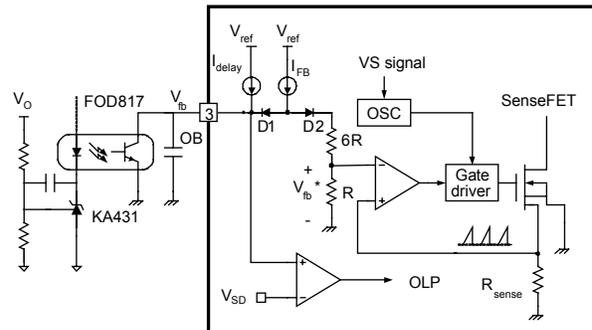

Figure 14. Valley Switching Pulse Width Modulation (VS-PWM) Circuit
2. Feedback Control: This device employs current mode control, as shown in Figure 14. An opto-coupler (such as the FOD817) and shunt regulator (such as the KA431) are typically used to implement the feedback network. Comparing the feedback voltage with the voltage across the R_{sense} resistor makes it possible to control the switching duty cycle. When the reference pin voltage of the shunt regulator exceeds the internal reference voltage of 2.5V, the opto-coupler LED current increases, pulling down the feedback voltage and reducing the drain current. This event typically occurs when the input voltage is increased or the output load is decreased.
2.1 Pulse-by-Pulse Current Limit: Because current mode control is employed, the peak current through the SenseFET is limited by the inverting input of PWM comparator (V_{fb}^*), as shown in Figure 14. Assuming that the 225 μ A current source flows only through the internal resistor ($6R + R = 12.6$ k Ω), the cathode voltage of diode D2 is about 2.8V. Since D1 is blocked when the feedback voltage (V_{FB}) exceeds 2.8V, the maximum voltage of the cathode of D2 is clamped at this voltage, thus clamping V_{FB}^* . Therefore, the peak value of the current through the SenseFET is limited.